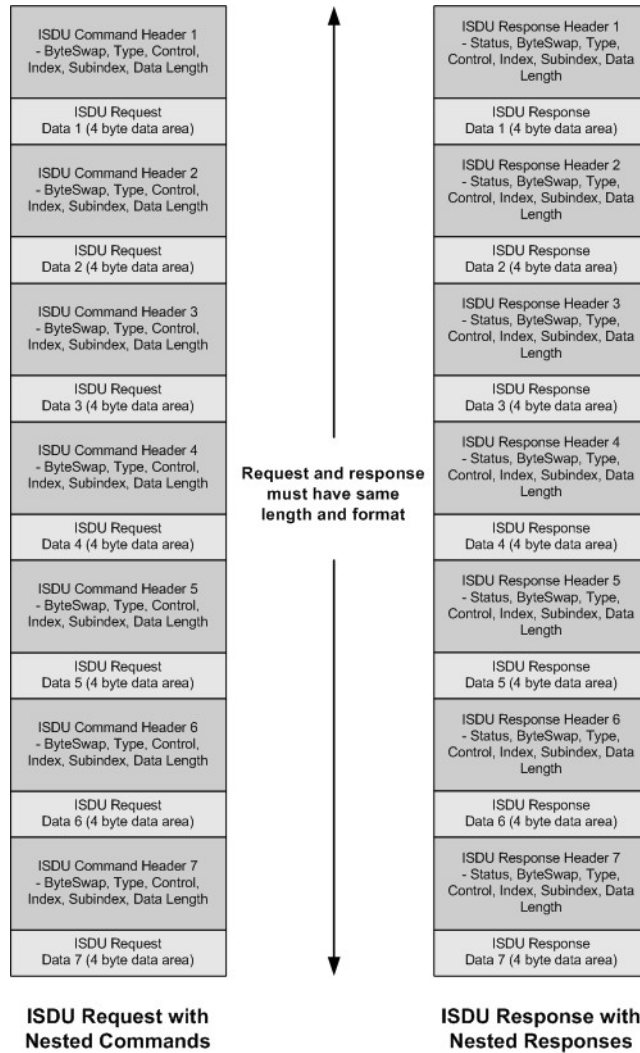

Figure 61: Example - Multiple Command ISDU Request/Response of Different Data Area Lengths
- *Figure 61: Example - Multiple Command ISDU Request/Response of Different Data Area Lengths*